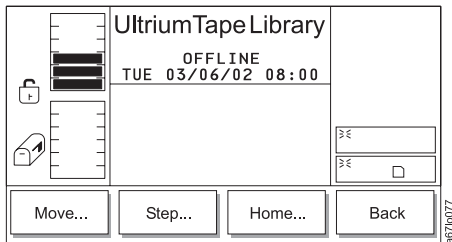

Figure 4-158. Picker Submenu
4. Press the button below the **Picker** softkey. The Picker Submenu displays (see Figure 4-158).